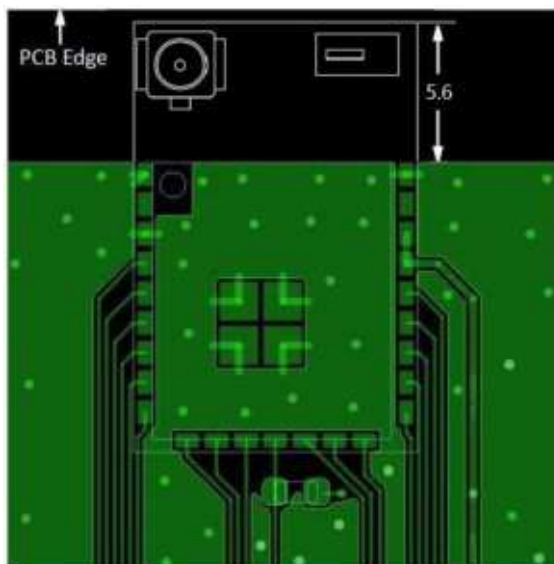
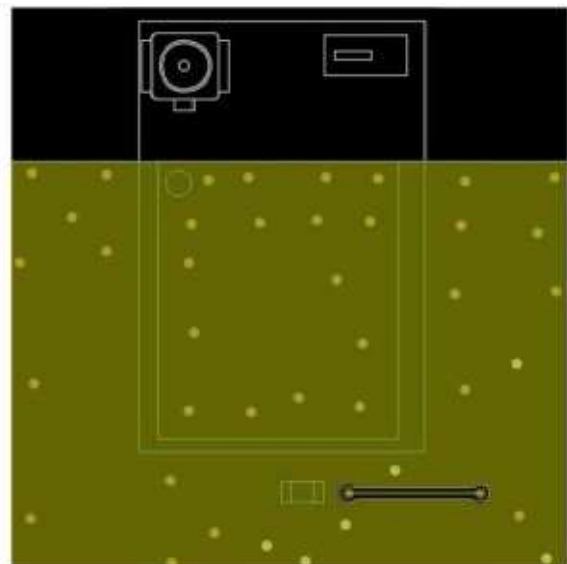

Figure 5-1. Top Layer
Figure 5-2. Bottom Layer
- Leaving 5.6 mm copper clearance on all PCB layers underneath the antenna area, as shown in Figure 5-1 and Figure 5-2.